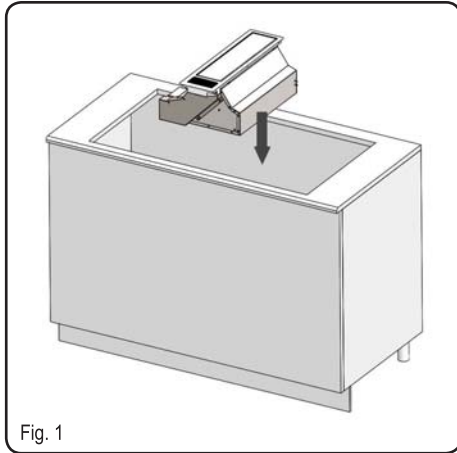

Fig. 1
4. Install the product in the hole drilled, inserting it from above (Fig. 1).